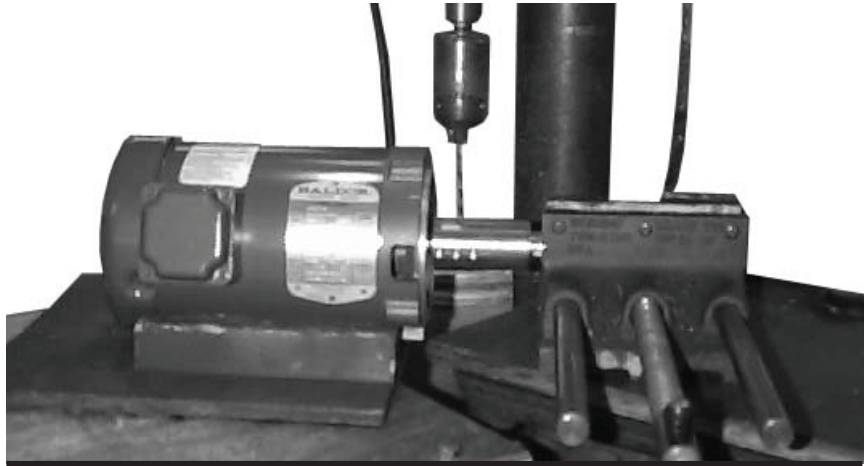

Figure 4 Positioning the stub.
- D. Insert #12 drill in stub shaft pilot hole and drill completely through motor shaft and opposite side of stub shaft. *See Figure 4.*